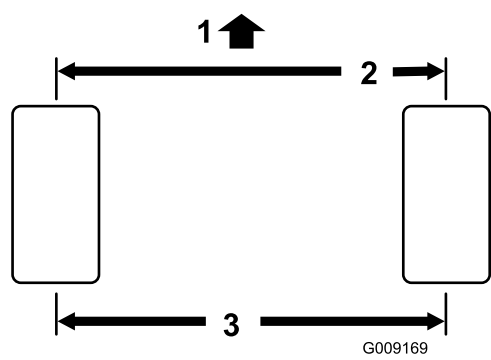

Figure 72
1. Measure the center-to-center distance (at axle height) at the front and rear of the steering tires. The front measurement must be 1/8 in. (3 mm) less than the rear measurement (Figure 72).